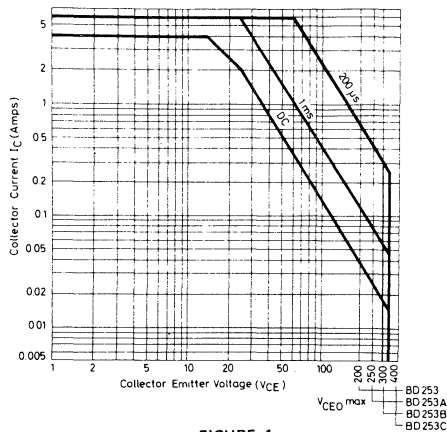
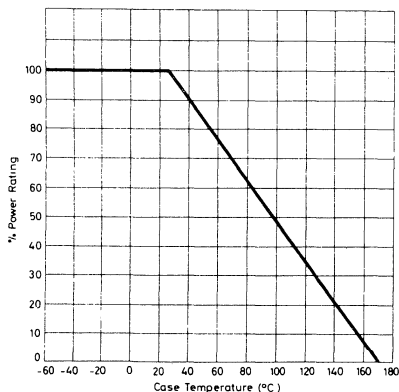

FIGURE 1
FIGURE 3
2. Refer to Figures 1 and 3
The graph on Figure 1 is for single non-repetitive rectangular power pulses, with a case temperature held at 25 C. For operation at case temperatures above 25 C derate the value of current indicated in Figure 1 by the power derating factor, determined from Figure 3. For repetitive pulse operation the following procedure should be followed. Work out the energy of the power pulse by graphical integration and determine the equivalent rectangular power pulse, using the pulse duration and the peak voltage applied. Ensure that the equivalent power pulse, as determined, is within the safe operating area, applying a derating factor for the case temperature as indicated above. Also calculate the average power dissipation and ensure that it falls within the steady state (DC) condition, having first derated the steady state condition for the effect of case temperature.